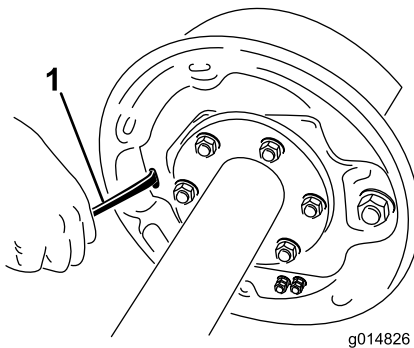

Figure 13
4. With a screwdriver, rotate the star wheel of the adjuster assembly to expand the brake shoes (Figure 13).